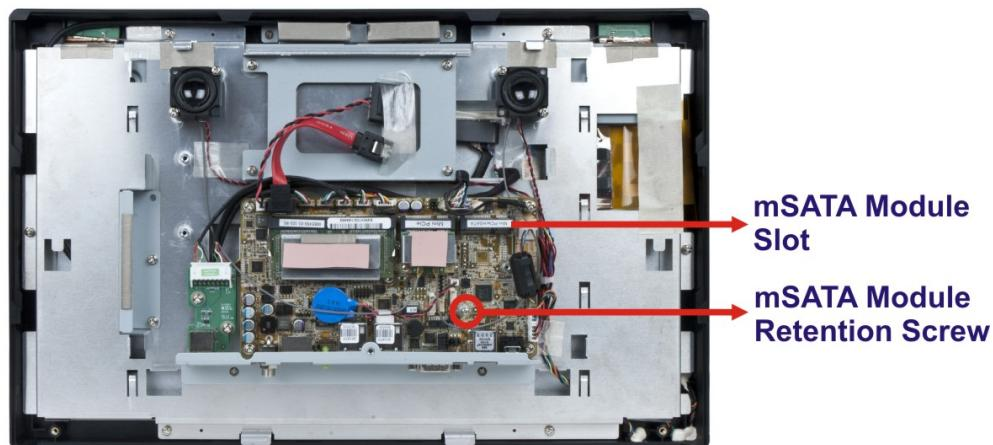

Figure 3-6: mSATA Module Slot Location
Step 2: Locate the full-size PCIe Mini card slot. Remove the preinstalled retention screw on the screw pillar of the PCIe Mini card slot as shown in **Figure 3-6**.